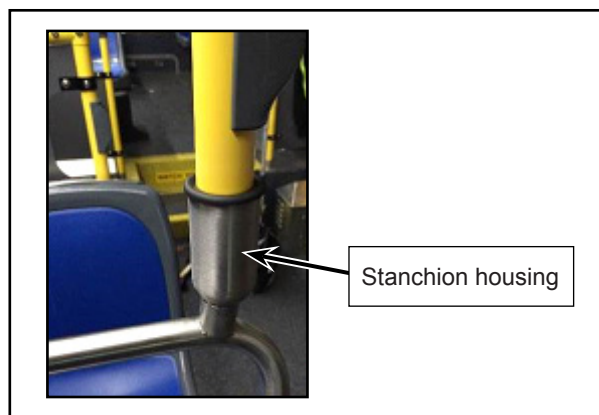

Figure 11 - Typical View of Stanchion Housing
2.1.4. Pull the stanchion out from the insert housing (see Figure 11).